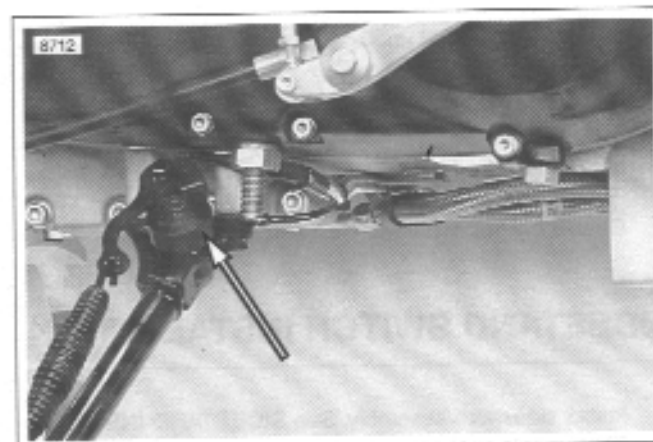

Figure 2-119. Sidestand Switch
2. See Figure 2-119. Remove sidestand switch, leaving wire attached, and pull switch assembly and wire harness through to right side of vehicle.
2. See Figure 2-119. Install sidestand switch, pulling switch assembly and wire harness through right side of vehicle and connect wire.